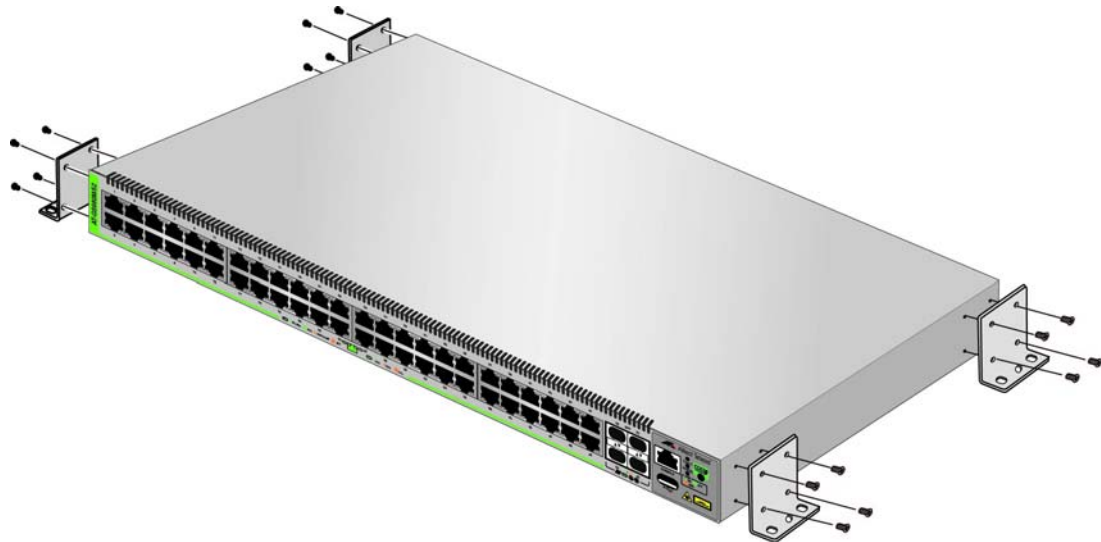

Figure 26. Bracket Positions for Installing Switch on a Wall
2. Install the four wall/equipment rack brackets to the sides of the unit with the sixteen M4x6mm screws included with the switch. Refer to Figure 26.
2. Install the four wall/equipment rack brackets to the sides of the unit with the sixteen M4x6mm screws included with the switch. Refer to Figure 26 on page 64.